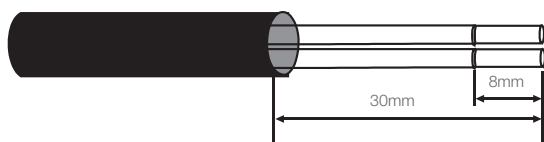

Figure 5.23
- Use a wire stripper to peel off the insulation layer of the communication cables to a certain length as shown in Figure 5.23.